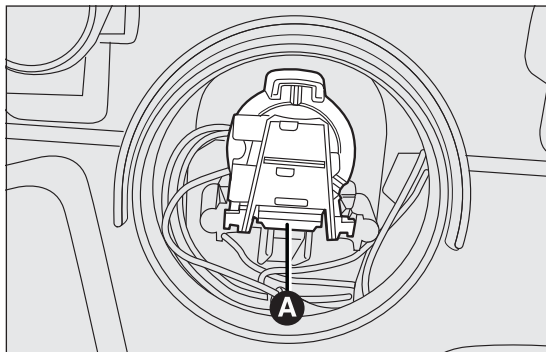

fig. 113
- ☐ press the fastener A fig. 113 and remove the bulb holder;